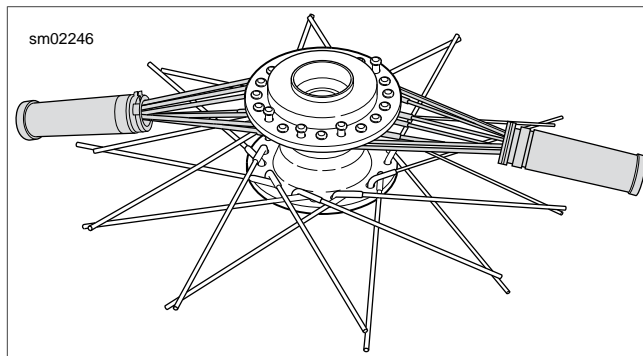

Figure 2-31. Bundling Top Spokes
6. See Figure 2-31. With all forty spokes inserted in hub, group all spokes on top flange into two bundles. Secure each group with throttle grips to keep the spokes together.